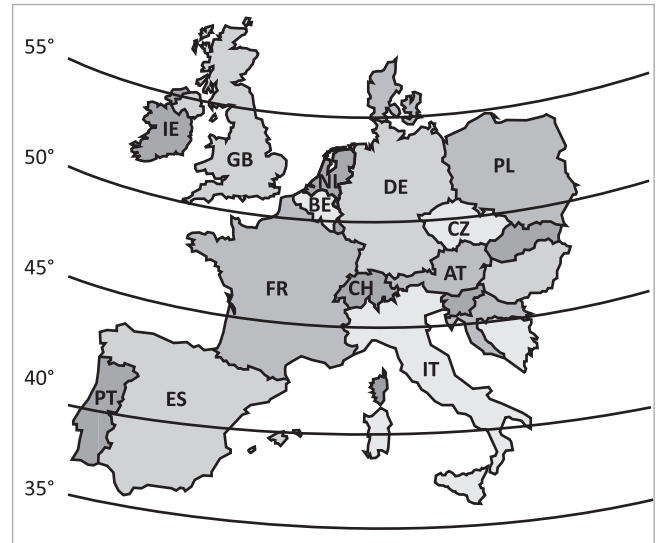

Fig. 7: Latitudes in Europe
- You can find the latitude of your location using → Fig. 7.